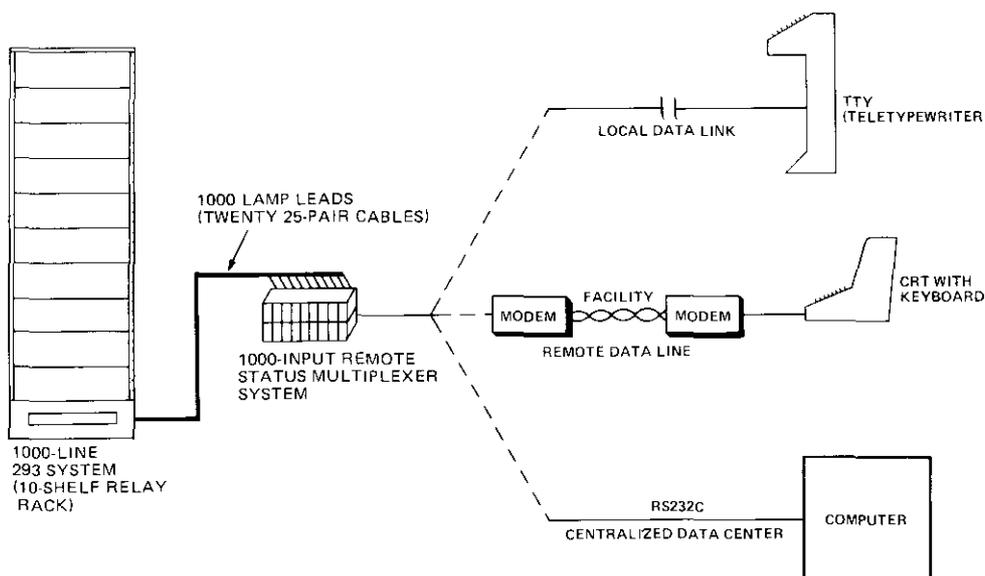

figure 11. Three typical remote status multiplexer applications
3.15 In applications that require answer-lamp indications at a remote location or require the answer-lamp information to be analyzed by data-processing equipment, Tellabs can supply a remote status multiplexer (RSM) system. Figure 11 shows a typical application of this system. The RSM system can also be used to activate the 293 System if the System is equipped with a two-way communication port. One RSM system can provide a direct data-processing interface for up to 1000 status lamp outputs from a 293 System. These outputs are then scanned by the RSM system, converted to a serial format, and outputted on an RS-232-C data port, allowing direct connection to computers, modems, terminals, or other peripheral equipment. For applications larger than 100 lines, multiple RSM systems can be used.